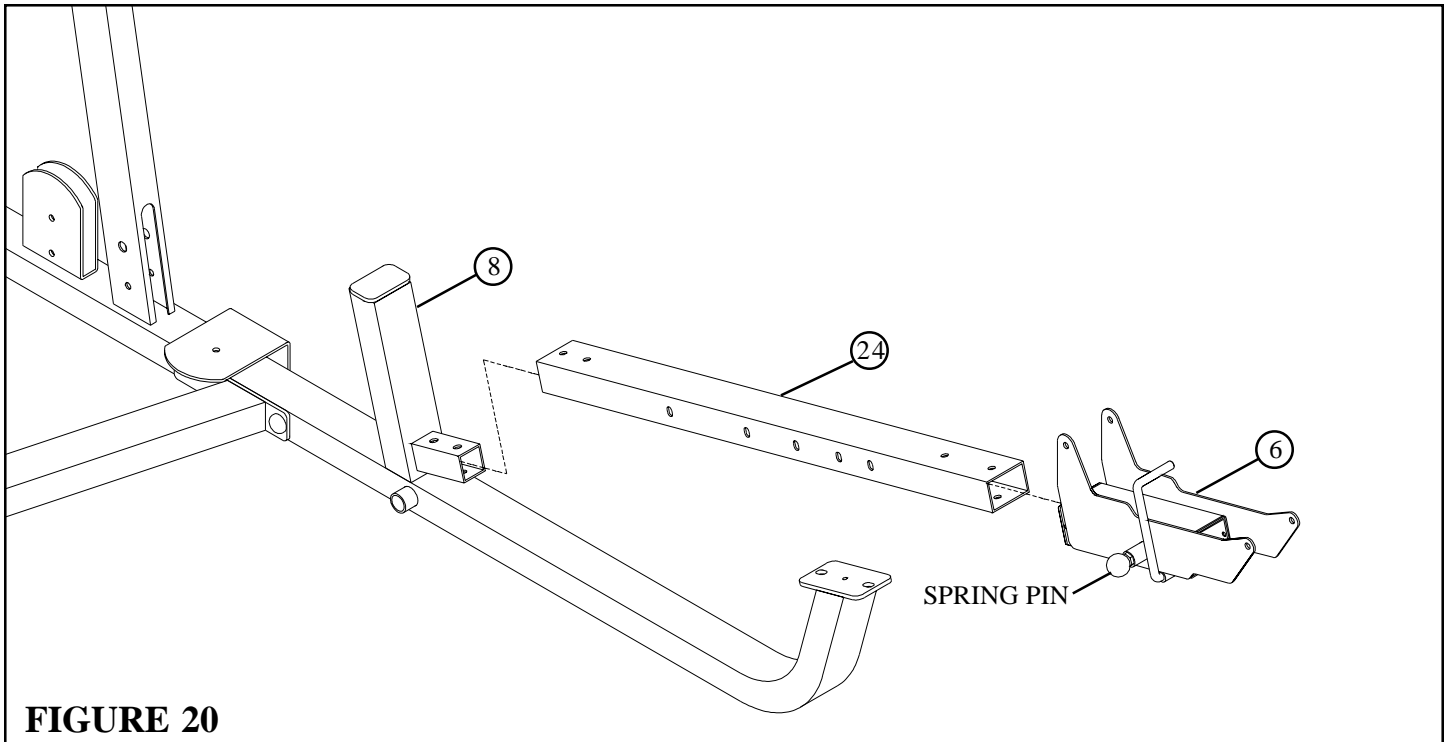

**FIGURE 19**
- **SECURELY** assemble the KNEE HOLD DOWN (12) to the LAT/LOW FRAME (14) using two RH CAPS (69), one 3/8 X 164mm BOLT (61), two 3/8" SAE WASHERS (66), two 3/8" RH WASHERS (67) and one 3/8" LOW HEIGHT LOCK NUT (65) as shown in FIGURE 19.
- Assemble two ROLLER PADS (45) and four 2-3/8" OD PLASTIC WASHERS (35) to the KNEE HOLD DOWN (12) using two 1-1/4" SHAFT COLLARS (40) as shown in FIGURE 19.